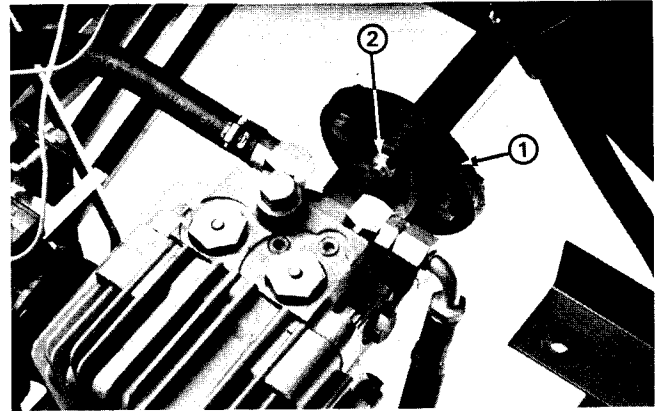

Figure 6
2. Remove the cap screws, flat washers, spacers and locknuts securing the drive coupling assembly to the transmission hub (Fig. 6).
2. Insert the large spacers into the holes in the rubber couplings so the spacers are between the rubber coupling and transmission hub (Fig. 6). Insert the cap screws with flat washers through the rubber coupling, spacer and transmission hub. Install the lock nuts to secure the coupling to the transmission hub.